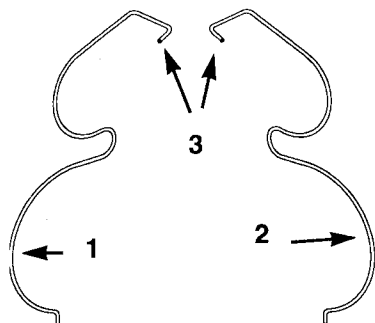

Figure 22
- A. Identify the left and right hold-down springs (Fig. 22).